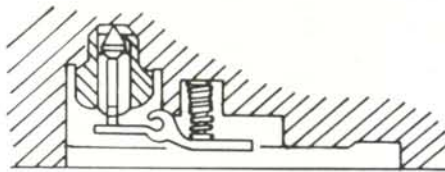

Fig. JS2-10—Inlet needle valve lever should be flush with floor of housing recess as shown.
Do not remove choke plate, throttle plate or shafts unless necessary. The choke and throttle plate retaining screws are either staked or retained with a thread locking solution to prevent loosening. If screws are removed, properly stake or apply a suitable thread locking solution on threads prior to assembly. Inlet needle valve lever (17) must be flush with floor of housing recess when needle valve is seated. Refer to Fig. JS2-10. If lever must be adjusted, push down on lever immediately above spring to collapse the spring, then bend the end which contacts needle valve.